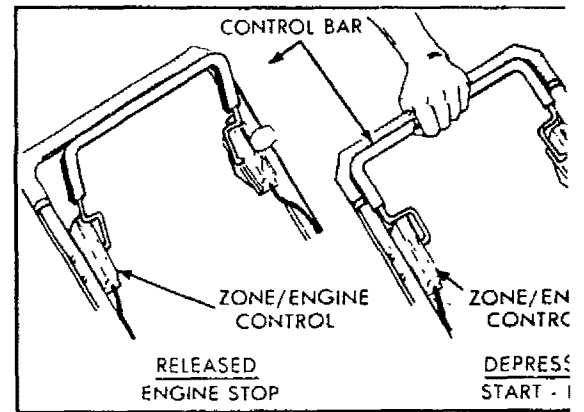

FIG. 16
8. To stop the engine, release the control bar (See Fig. 16).